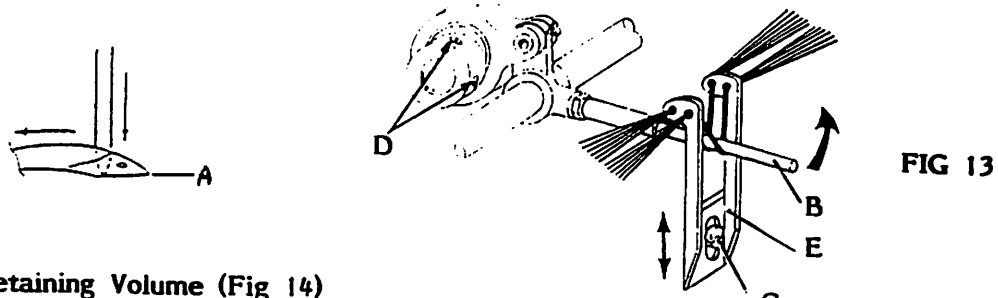

FIG 13
a). Synchronization of retaining bar and looper Fig 13. In motion of needle bar downward and point of needle is at the same height of blade of looper, thread retaining bar should start its motion upward. Loosen screw D on eccentric and shift its location.
This adjustment can be made with loosening screw C Fig 13 as height of eyelet can be changed.